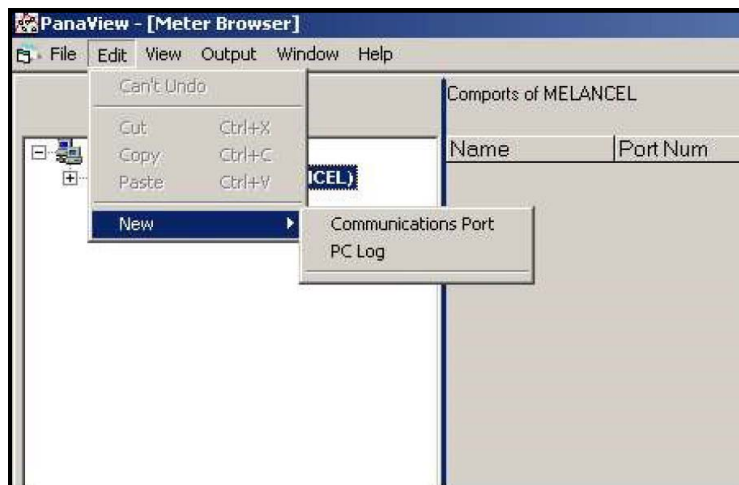

Figure 18: The Edit Menu
3. Click on the "New" menu option to select it, and a submenu opens with two choices on it (see *Figure 18* below).